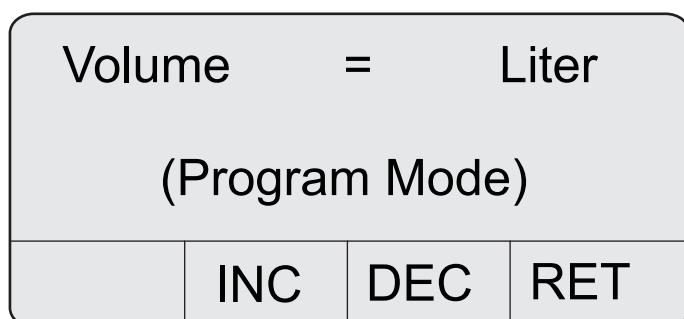

Figure 22 Volume screen
8. Press 2 (DSP) and then press 2 (NXT) four times to display the Volume screen (refer to Figure 22).